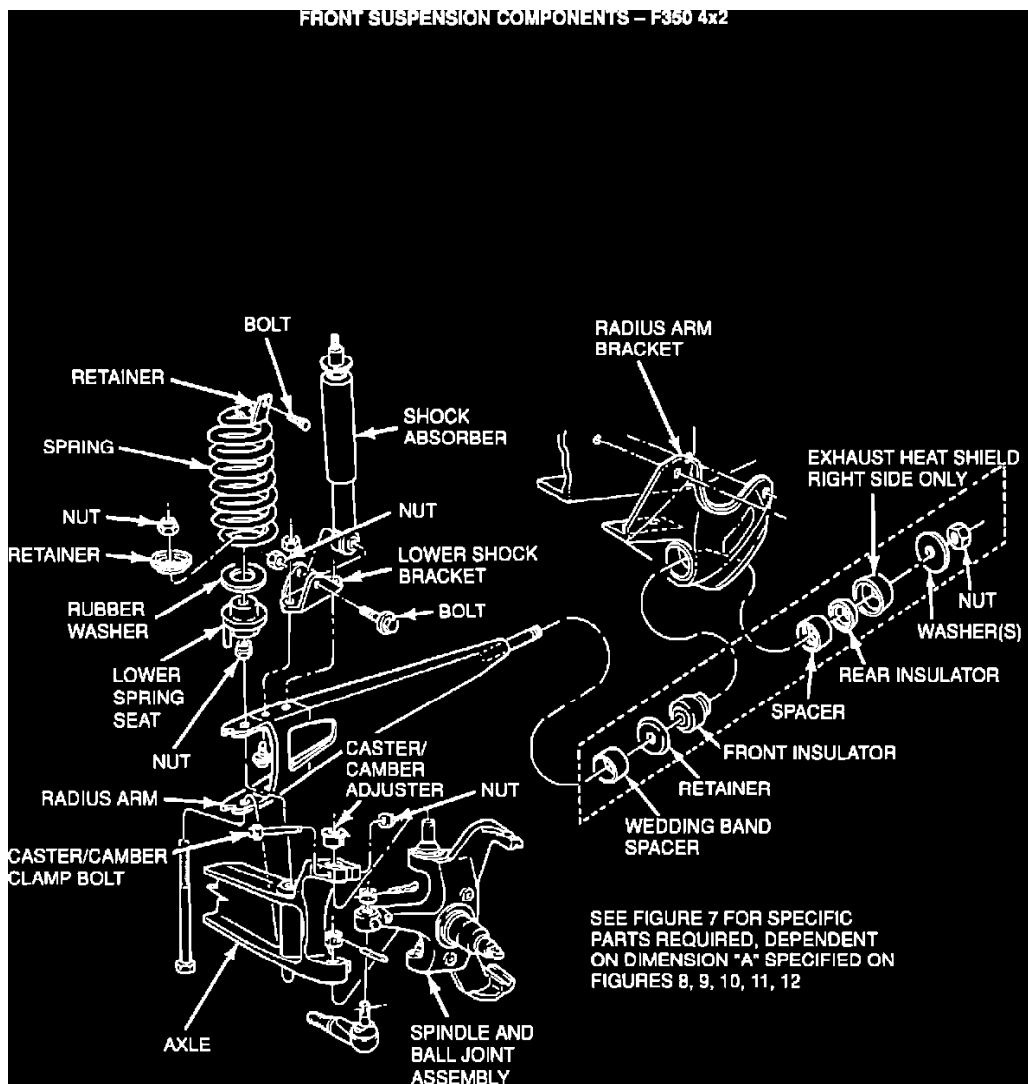
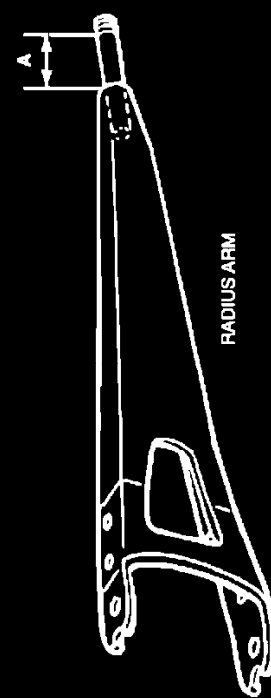

Figure 6
Figure 7
1. Inspect the radius arm bushing part stack, Figure 7.
2. Measure the radius arm stud length. See the component matrix, Figure 7, to determine the parts involved and the bushing part stack height for the F-350 DRW 4x2 and the F-350 SRW 4x2. Figures 6 through 12 show the radius arm bushing stack for each truck and follows the matrix.